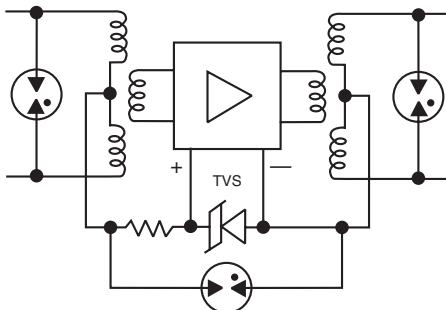

Figure 5. Telecom Repeater with Protection
**B. Case Study:** In the following application, a silicon transient suppressor is being used to both regulate the voltage to power a telecommunications repeater and also provide transient suppression. The schematic is shown in Figure 5. This is one of two repeaters powered and protected by the same component.